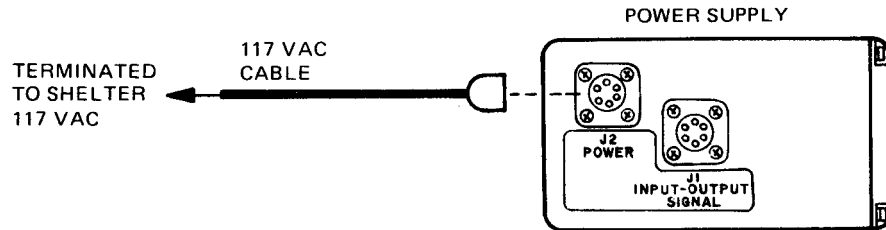

Figure 2-4. Shelter Configuration
- (j) Connect cable as shown in figure 2-4.